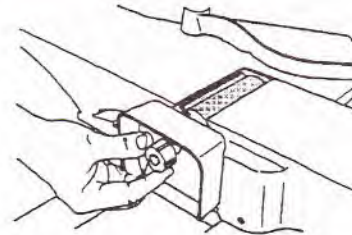

Fig. 2
3. Grasp the jointer's power coupler and rotate the cutter head so no blade is exposed in the opening. See Fig. 2